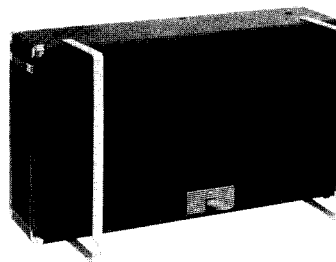

FIGURE 1
1. Set the Speaker Enclosure upright on the floor (Fig. 1). Rotate the legs so that they are perpendicular to the case. Lower the end of the Sustain Pedal parallel to the floor so it is in the normal playing position.